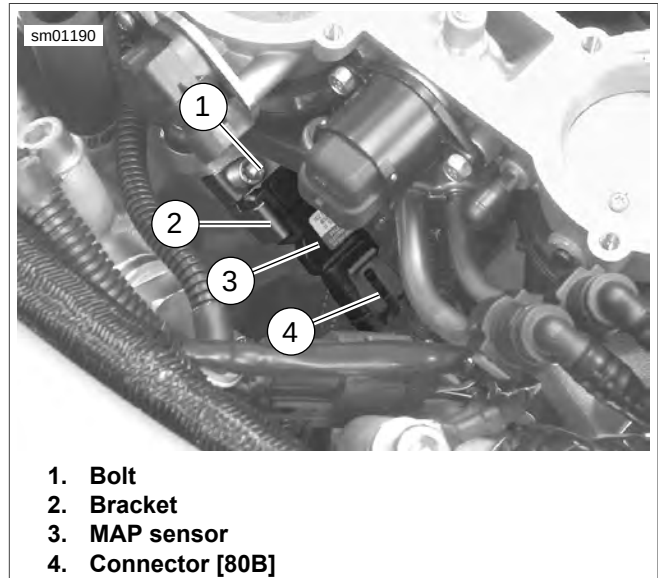

Figure 4-13. MAP Sensor Location (typical)
4. See Figure 4-13. Remove bolt (1) securing MAP sensor bracket (2) to front cylinder.
5. Unplug MAP sensor connector [80B] (4).